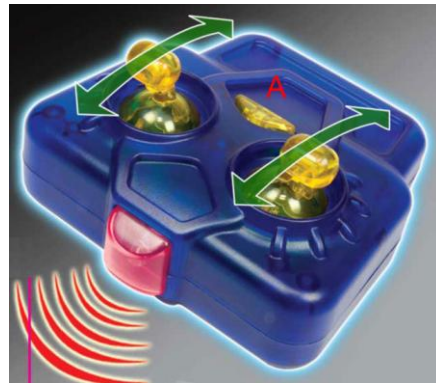

Fig. 20
16. Push the red power button on the robot **and the triangle button (A) on the remote control** to turn it on. Point the remote control towards the unit. Push both control sticks of the remote control forward or backward at the same time to move it in straight line. Move them in opposite directions to make a turn. (Fig. 20)